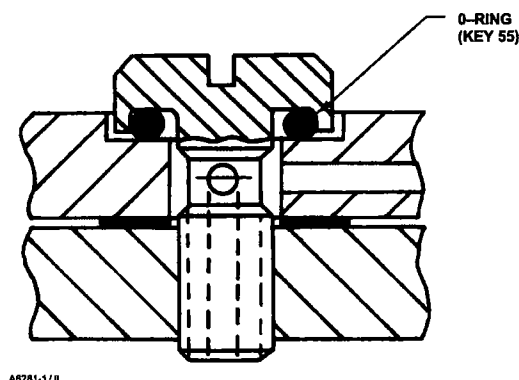

Figure 18. Bellows Screw Detail
4. If the controller or transmitter uses a Bourdon tube sensing element, disconnect the Bourdon tube from the beam (key 44) by removing the screw (key 63). Be careful to avoid losing the bearing (key 65). Unscrew the machine screws (key 77), and remove the washers and Bourdon tube (keys 76 and 62).
5. Unscrew the bellows screws (key 54) from each end of the mounting base (key 30). [Note: The bellows screws (key 54) have an O-ring (key 55, figure 18) installed beneath the bellows screw head. Remove the O-ring and obtain a replacement when re-assembling the bellows.]
6. Compress the bellows so that the end of the bellows and beam can be removed from the end of the mounting base (key 30) and unscrewed from the stud (key 51, not shown) that connects the bellows.
7. With the stud that connects the two bellows in place in the spacer (key 50), screw the new bellows onto the stud. Install new gaskets (key 53) on each bellows.
The bellows screw (key 54) has an O-ring (key 55) installed beneath the bellows screw head as shown in figure 18. Be sure this O-ring is in place before installing the screw into the mounting base.
8. Compress the bellows, and install them into the mounting base (key 30). With the beam parallel with the mounting base, secure the bellows with the bellows screws (key 54).
9. After tightening the bellows screws, make sure that the nozzle (key 57) is centered on the flapper (key 45).